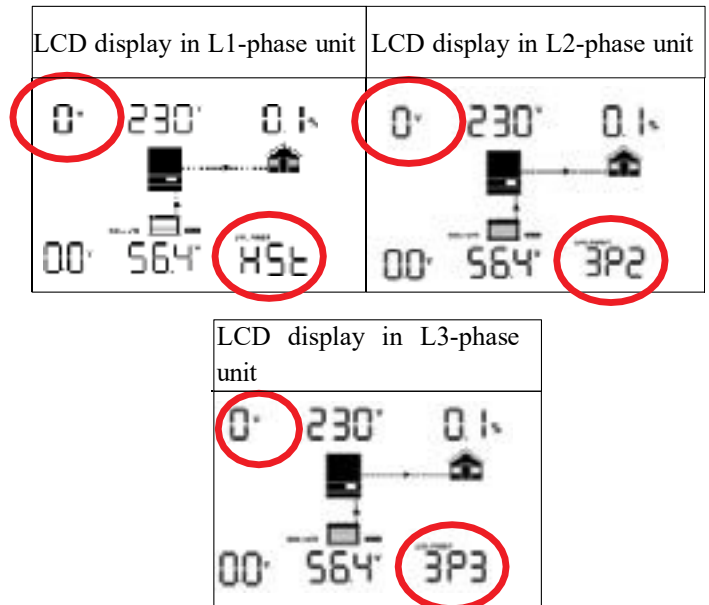

Figure 1-17
2. Turn on all the units, set the LCD program 23 to 3P1 (Host), 3P2 and 3P3 on the units in sequential order. (See *Figure 1-17*)